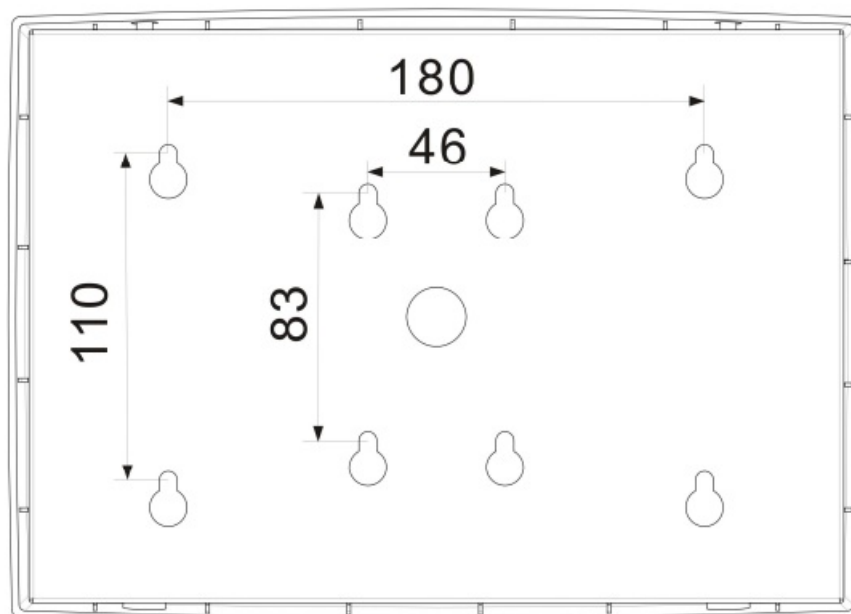

Fig 2 Dimension (mm)
2. Mark the position for the 4 installation holes on flat wall (Fig. 2), drill the holes, put expansion bolts in and insert the screws leaving a small gap for hanging the display.